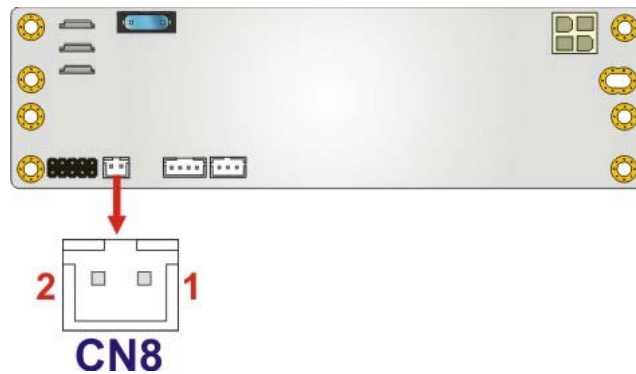

Figure 4-8: Power Switch (External) Connector Location
- CN Location:** See **Figure 4-8**